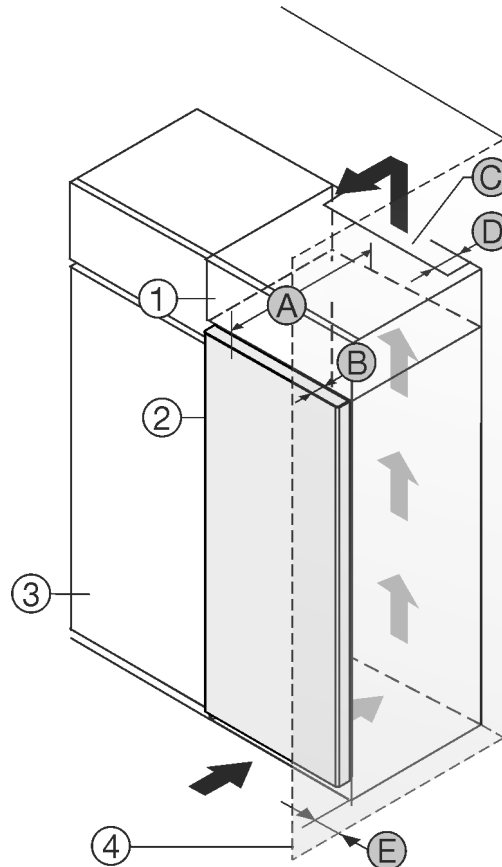

Fig. 1
- (1) Top cupboard*
- (2) Appliance*
- (3) Kitchen cabinet*
- (4) Wall*
- (A) Appliance depth*
- (B) Door depth*
- (C) Ventilation cross section*
- (D) Distance to the back of the appliance*
- (E) Distance to the side of the appliance*
You can place the appliance directly beside the kitchen cabinet Fig. 1 (3).*
There must be a ventilation shaft at the depth Fig. 1 (D) of the back of the top cupboard over the entire width of the top cupboard.*
The ventilation cross-section Fig. 1 (C) must be maintained under the ceiling.*
If the appliance is set up with the hinges next to a wall Fig. 1 (4), the distance between the appliance and the wall must be at least 13 mm.*
If the appliance is set up with the hinges next to a wall Fig. 1 (4), the distance between the appliance and the wall must be at least 20 mm.*
In order to be able to fully open the door, the appliance must protrude by the depth of the door Fig. 1 (B) from the front of the kitchen cabinet. The appliance may protrude further depending on the depth of the kitchen cabinets Fig. 1 (3) and whether wall spacers are used.*